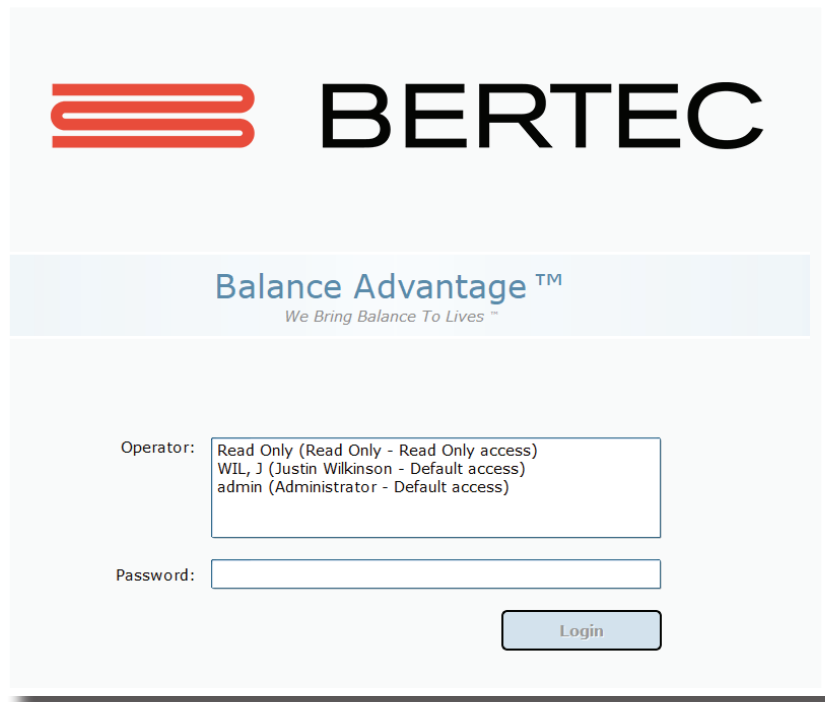

Figure 8: Software Login Screen.
1. Open Bertec® Balance Advantage®. Arrive at the login screen, shown in Figure 8.